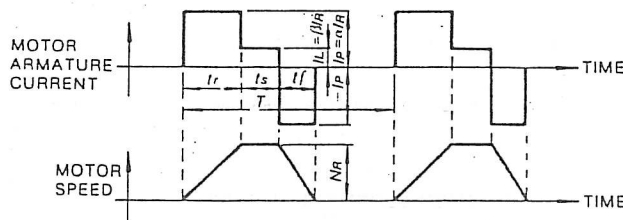

Fig. 4.4 Timing Chart of Motor Armature Current and Speed
- When the motor repeats rated-speed operation and being at standstill (Fig. 4.4).